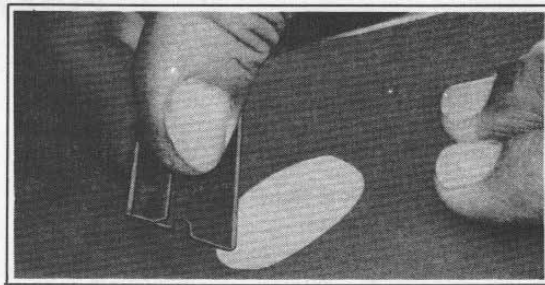

Figure 2-78. Spreading Gell Coat Evenly
8. Spread the gel coat level with the surrounding area and allow to cure (30-60 minutes). See Figure 2-78. Gel coat can be covered with cellophane, if desired, to aid in spreading evenly. Remove cellophane after gel coat has cured.
4. Fill the scratch or hole slightly above the surrounding undamaged area, working the Filler coat into the damaged area with a putty knife. Be careful to puncture and eliminate any air bubbles which may occur. Patch can be covered with cellophane to aid in spreading evenly (see Figure 2-78). Allow to cure completely before removing cellophane.